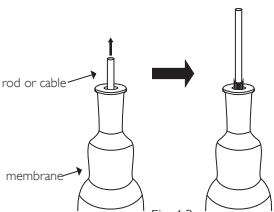

Fig. 4.3
- 8. Pull the rod and hanger up through the membrane until the top of the hanger is protruding from the top of the membrane (fig. 4.3).